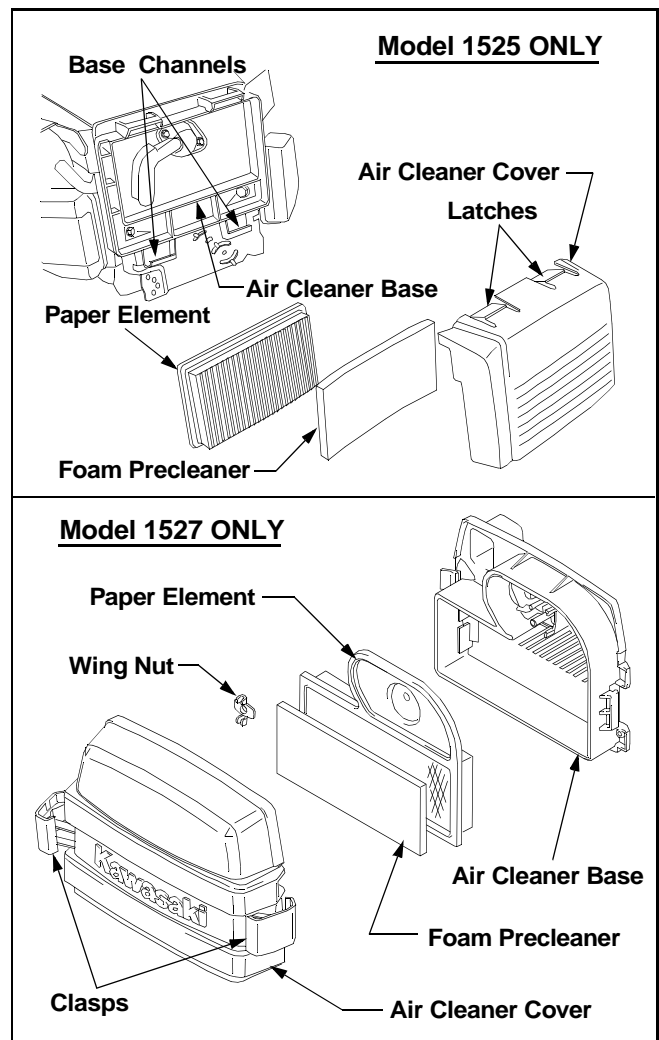

Figure 19
The engine is equipped with a replaceable foam pre-cleaner and paper air cleaner element. See Figure 19. Always examine the air cleaner **before starting the engine**. Check for a buildup of dirt and debris around the air cleaner system. Keep this area clean. Also
- Press down and hold the two latches on the top of the air cleaner cover while rotating the top of the cover away from the air cleaner base. Refer to Figure 19.
- Remove the paper element and precleaner from the air cleaner cover. See Figure 19.
- Pull the two clasps away from the sides of the air cleaner cover; then unhook the clasps from the tabs on the air cleaner base. See Figure 19.
- Insert the two hooks on the bottom of the cover into the two channels of the air cleaner base. Refer to Figure 19.
- Position the air cleaner cover over the base and hook the clasps behind the tabs on the base. Refer to Figure 19.